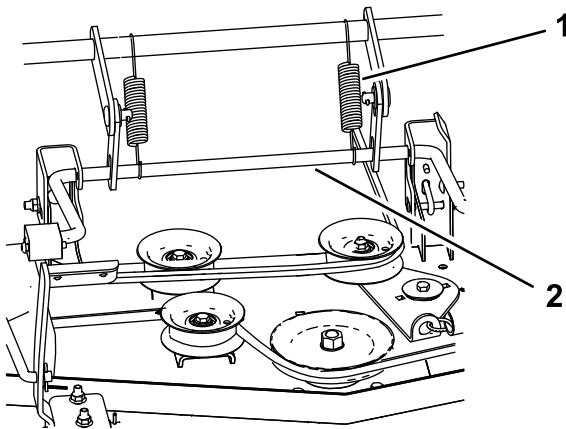

Figure 73
6. For 60-inch decks, remove the 2 deck-lift springs (Figure 73).
6. For 60-inch decks, install the 2 deck-lift springs (Figure 73).